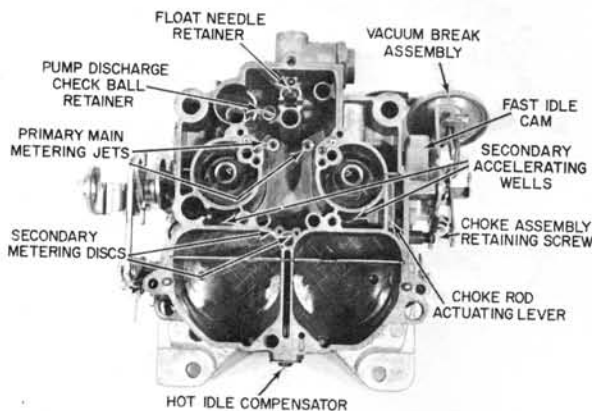

FIGURE 33
3. Remove two screws from float needle diaphragm retainer; then remove retainer and float needle assembly from bowl (Figure 33).